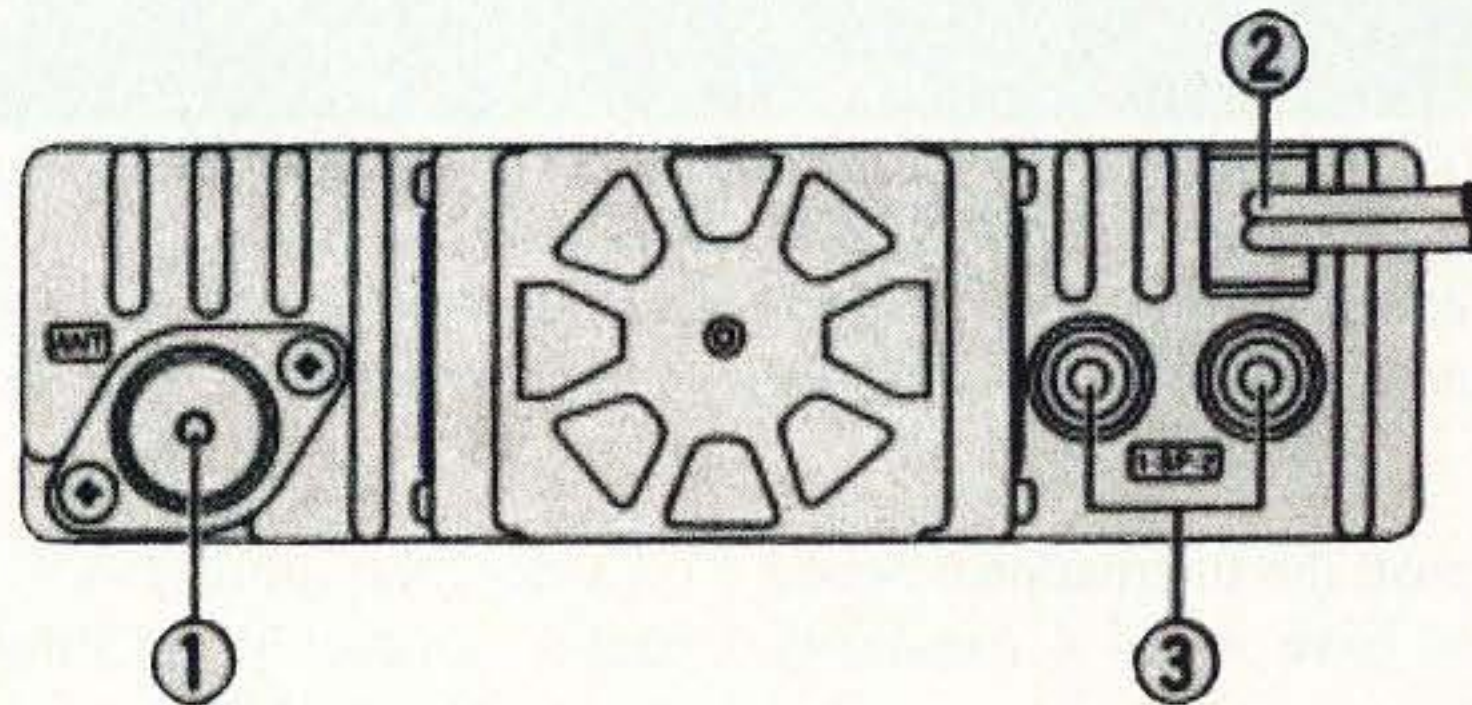

Fig. 2. Main unit rear panel.
The rear of the main unit (Fig. 2) has an SO-239 connector (1) for the antenna. There is a cooling fan in the